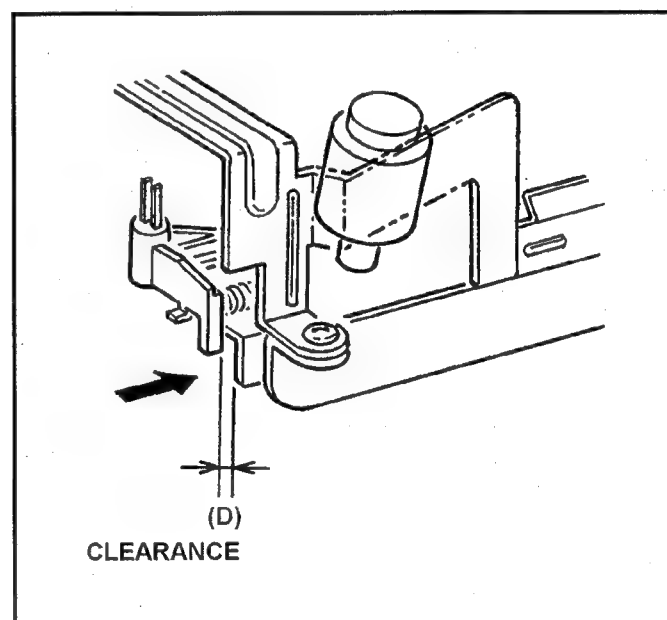

Fig. 10-13-3 Cleaner Solenoid Position Adjustment
1. Observe the **clearance (A)** between Cleaner Roller and Cylinder Unit as shown in Figure 10-13-3. And make sure that it is within **1.0 to 1.2mm**.
2. If not, loosen the **2 screws (B)** and adjust the position of Cleaner Base Plate by moving to arrow direction (A ⇔ A) with the Eccentric Driver so that the **clearance (A)** is within specification. And tighten the **2 screws (B)**.